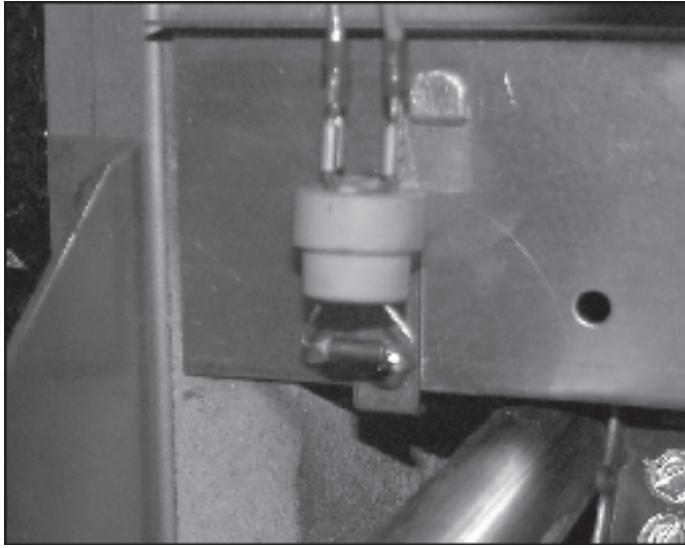

Figure 1: Flame Rollout Switch
- 3) All boilers except the CWD, BWC, and Series 32 boilers are equipped with a flame rollout switch (Figure 1). This switch will shut the burners down in the event that flames exit the burner compartment through the front opening. The CWD and BWC use an electronic means built into the ignition system to extinguish the burner/s in the event that flames exit the combustion chamber. If the boiler fails to fire, call a qualified heating service agency to diagnose and correct the problem.